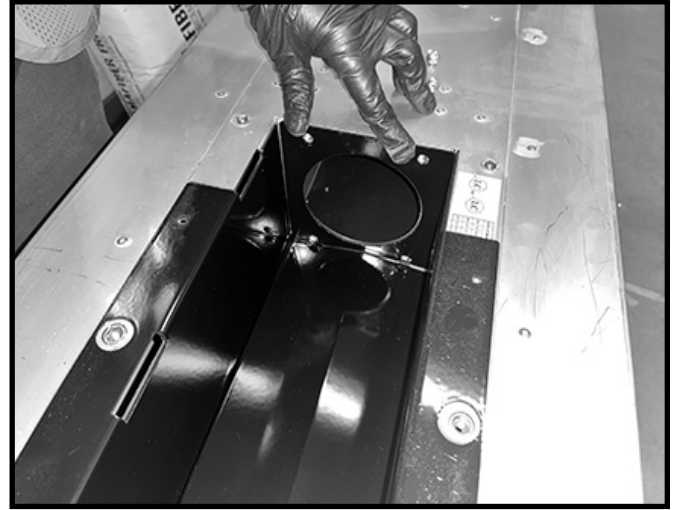

Figure 44: Reinstall end plates.
5. Reinstall the decorative porcelain end cover plates. (Figure 44)